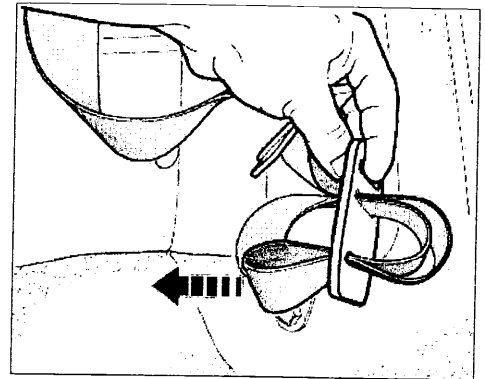

Figure 8
12.3 Then feed the belt loop, which you pulled through the center opening, from behind through the lower opening on the belt strap holder and pull it through towards the front (Figure 8, Arrow).